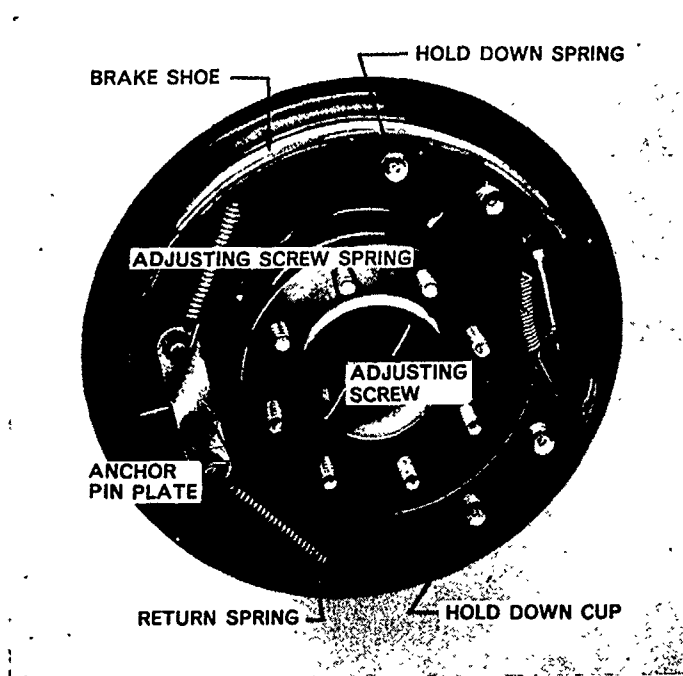

Figure 33
5. Using brake spring pliers, remove the two brake shoe return springs (blue) from the anchor pin plate and remove the anchor pin plate, Figure 33.
5. Locate the adjuster spring and install the brake adjuster unit between the rear ends of the brake shoes so that the notched wheel is in line with the adjusting slot in the backing plate, Figure 33.